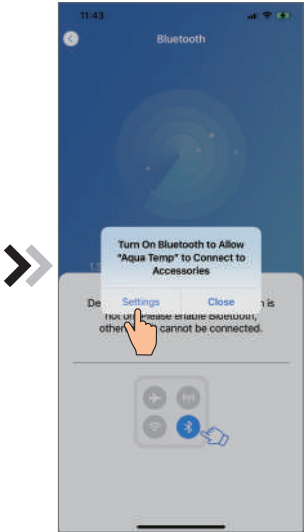
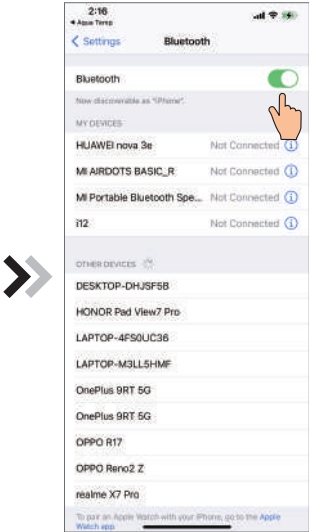

Fig.11 Enable bluetooth permission
Fig.12 Bluetooth setting interface
- Click "Settings" (Fig.11) to enter bluetooth setting interface(Fig. 12);